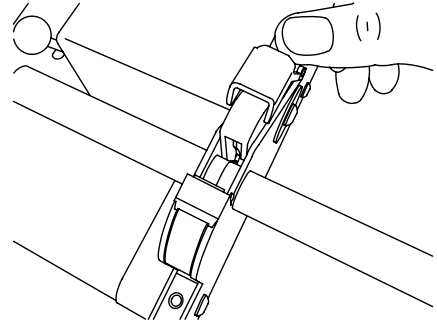

Figure 28 Arc Shield Open
1. Open the arc shield by pushing down on the thumb tab. See Figure 28.